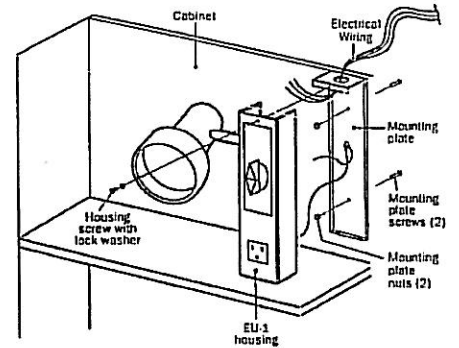

Figure 4. Installing the EU-1 in the cabinet.
- B. Separate the mounting plate from the housing by removing the housing screw and lock washer as shown in Figure 4. **NOTE:** The ground wire for the electrical receptacle in the EU-1 is attached to the mounting plate.
- D. Place the mounting plate under the 1" hole and drill two mounting holes through the mounting plate and cabinet (see Figure 4). Secure the mounting plate with the two screws and nuts supplied.
- E. Route the electrical wires from the wall through the 1" hole and through the top of the mounting plate (see Figure 4).